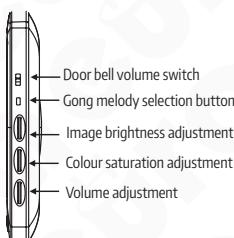

Fig. 1. Monitor design
3. Connect the included power supply plug to the power supply unit outlet (fig. 1).
4. The rear part of the monitor enclosure features 4 openings (fig. 1) used to suspend this module to the installation frame. Gently suspend the monitor to the frame according to the direction indicated by the arrow in fig. 3c so that all 4 frame brackets are in the openings in the enclosure.